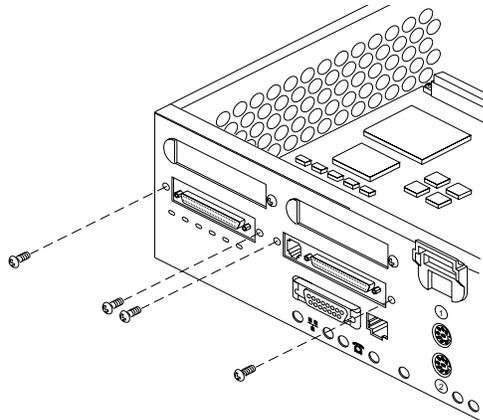

Figure 2-11 Removing the Screws From the IOPLUS Board's I/O Connectors
3. Use the Phillips screwdriver to remove the four screws from the IOPLUS board's I/O connectors on the rear of the server, as shown in Figure 2-11.